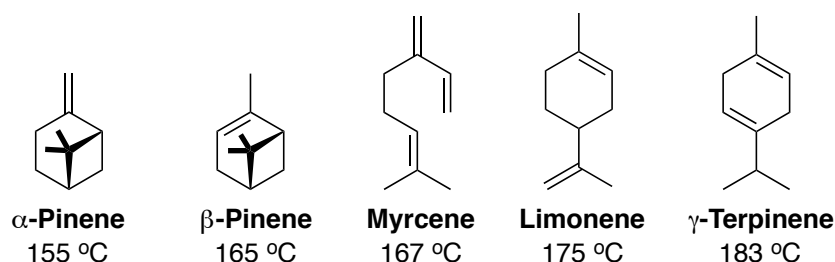

Figure 1. Monoterpenes found in citrus oils and their normal boiling points
Citrus oils consist largely of volatile hydrocarbons and small quantities of aldehydes, alcohols, and other oxygenated compounds. Any *essential oil* has a particular combination of chemicals that makes its smell unique and often times easily recognizable. It is common for natural plants extracts to contain compounds having carbon atoms in multiples of five. This broad class of compounds is called **terpenes**. They are biosynthetically derived from two or more *isoprene* units. There are several different ways for plant metabolism to combine two five-carbon isoprene units into a ten-carbon *monoterpene*, hence the occurrence of many different isomers. The most prominent components in citrus oils are α -pinene, β -pinene, myrcene, limonene, γ -terpinene (**Figure 1**).
1. Define the term **terpene**. What is the approximate percent composition of each of the terpenes in **Figure 1** in orange oil (or whichever citrus you will be using)? A quick Wikipedia search is fine this time!